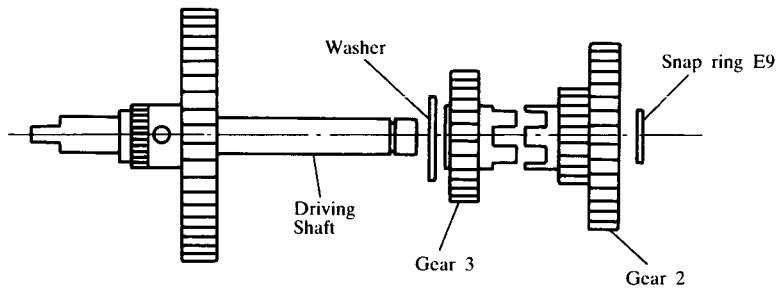

Fig. 54
(2) Put the washer ( $\phi 12$ ), Gear 3 and the Gear 2 on the driving shaft. (Refer to Fig. 54).